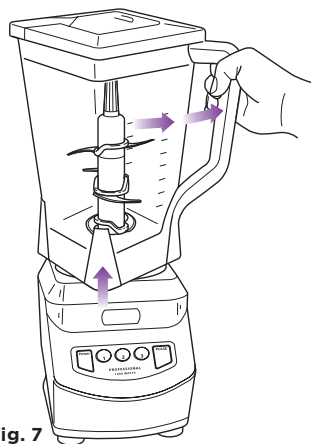

Fig. 7
**8** To remove the pitcher, press the power button (⏻) to turn the appliance 'Off'. Wait for the blades to stop moving before removing. (Fig. 7)